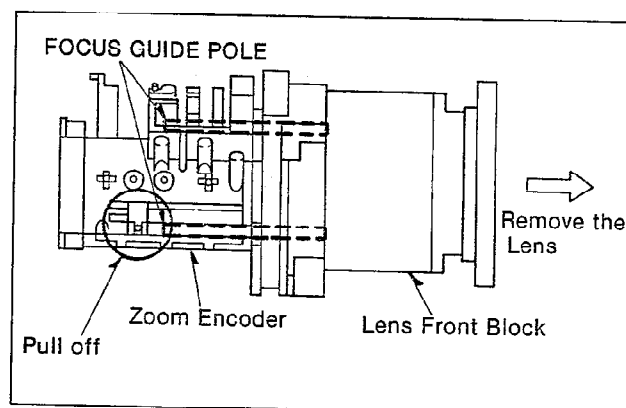

Fig. C6
- (3).Pull off the hook on the Zoom Encoder. And pull up the Lens to right as shown in Fig C6.